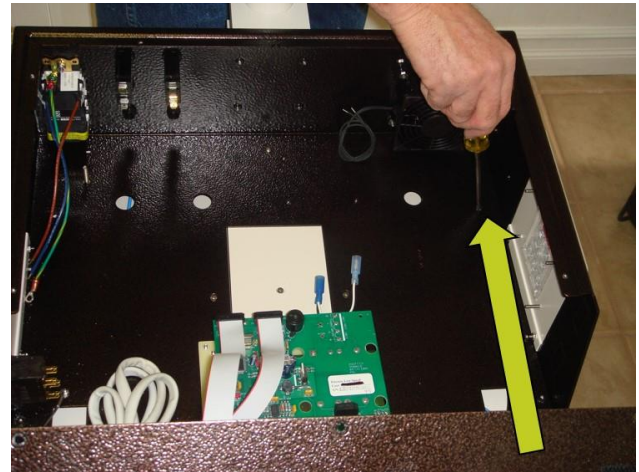

Fig. 5
13. There are fifteen (15) Phillips head screws around the perimeter of the delivery system head; removal of the screws and set aside. (Fig. 5)